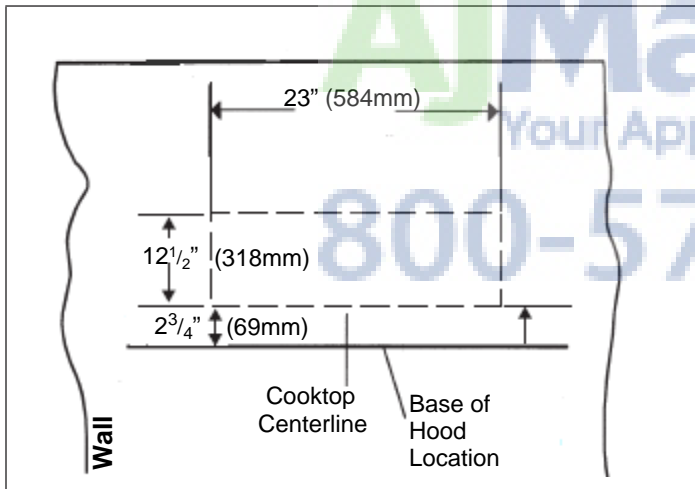

Figure 9: Cutout Dimensions
Dashed line indicates cutout needed for clearance of the transition (Figure 9).
Discharge Direction: Horizontal discharge requires a wall cutout, as shown in Figure 9, to provide clearance for the transition. The location of the cutout is determined by the hood installation height. The transition supplied with the hood connects to standard 10" (254mm) round duct.
3. For horizontal discharge, use Figure 9 on page 8 for the geometry of the cutout required for clearance of the transition.